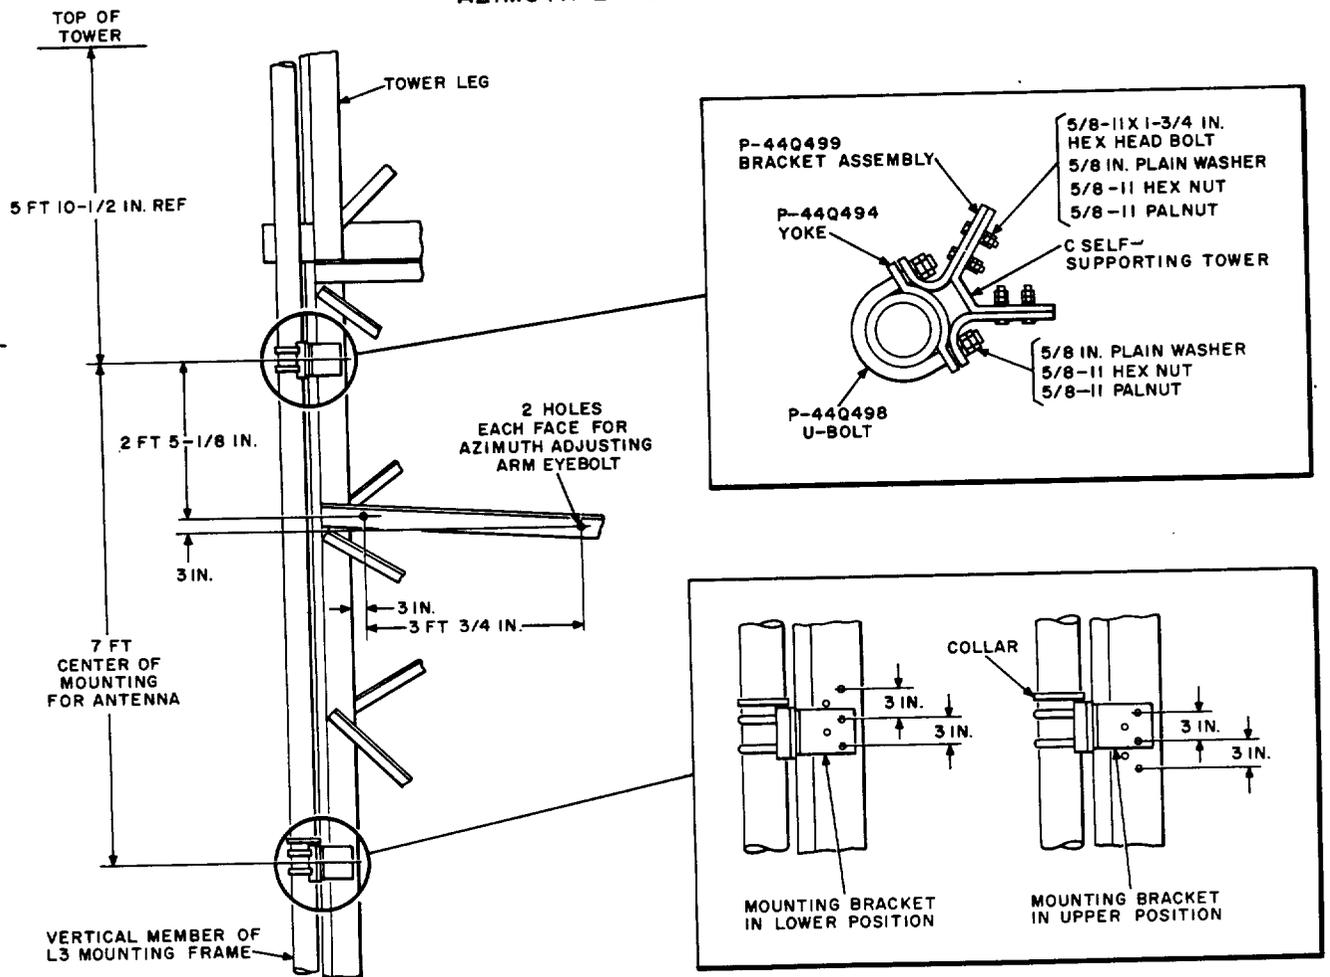

Fig. 17—Antenna Installation on AT-8013 C Self-Supporting Tower
5.22 All installation procedures are shown on Fig. 17. Determine the location of the P-440499 brackets. The brackets have an upper or lower position. Use the upper position when the vertical member of the mounting frame is to the left of the reflector center as viewed from the rear of the antenna. Use the lower position when the vertical member is to the right of the reflector center as viewed from the rear.